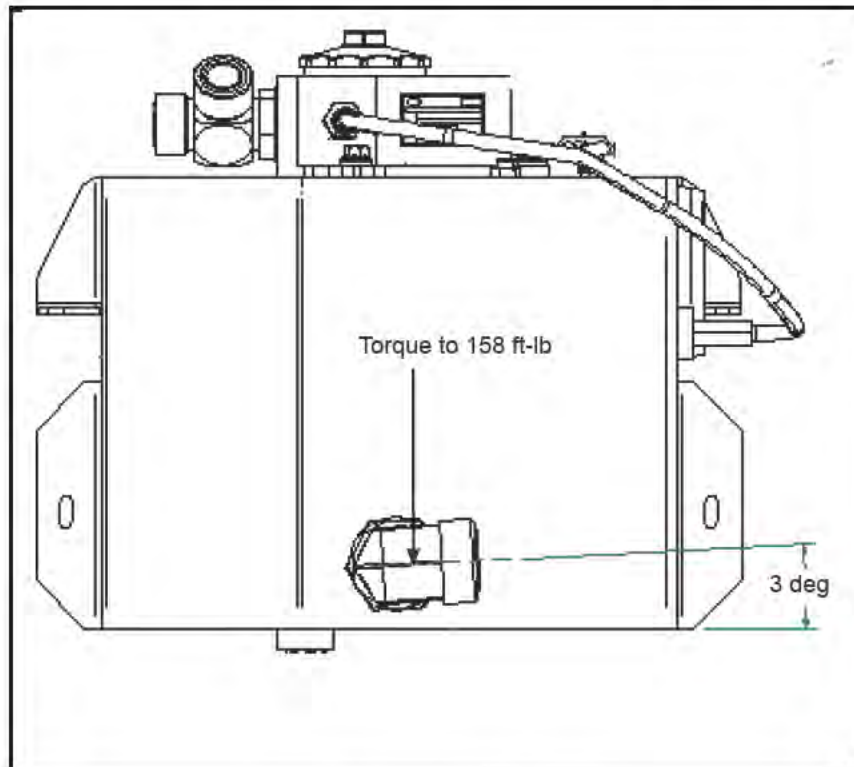

Figure 20 - Install and Torque Fitting
- 1.19. Discard o-rings from the 90° fitting removed at step 1.6 and replace with new ones. Install fitting with a 3° angle. Torque to 158 ft-lb (214 N·m) and apply anti-tamper seal. See Figure 20.